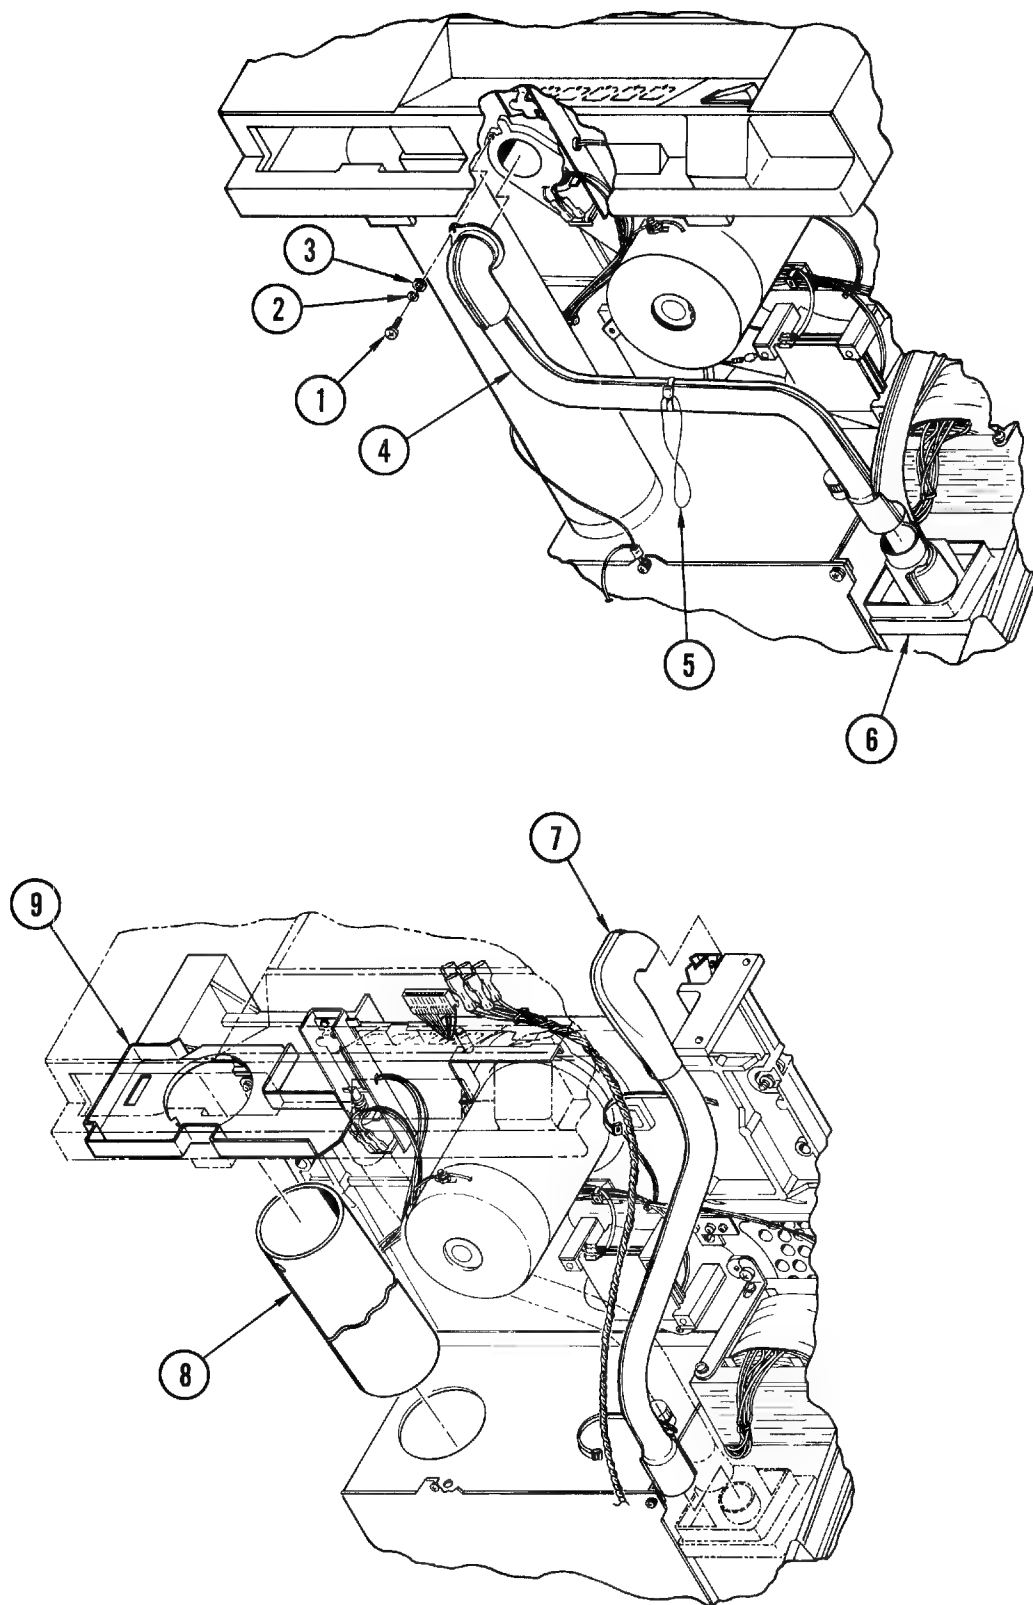

Figure 4-27. Top Plate Air Duct,
**4-41. Removal and Replacment (Figure 4-27).** Place the transport in service access position (paragraph 4-3). To replace the top-plate air duct, proceed as follows:
- a. Remove head connectors J6/J7 from main PWB and cable retractor (5). At top-plate end of top-plate air duct (4), remove screw (1), lockwasher (2), and flatwasher (3).
- b. Pull other end from blower adapter (6), and remove air duct.
- c. Remove cable retractor (5) from old duct and secure with Ty-rap on replacement duct.
- d. Install replacement duct by slipping flared end over blower adapter (6) and reinstalling screw, lockwasher and flat washer.
**4-42. Front Panel Air Duct (Figure 4-27).** Replace the front panel air duct as follows:
- c. Pull front panel just far enough away from transport to remove gooseneck end of front-panel air duct (7), noting position from which removed with reference to air deflector on front, right-hand edge of top plate.
- d. Pull other end of duct off blower adapter (6).
- e. To install replacement front-panel air duct (7), place flared end of duct on blower adapter.
- f. Position gooseneck end of duct so that it opens into air deflector and holding end of duct in place, replace front-panel assembly, squeezing positioning block of front-panel over gooseneck, ensuring that air intake tube (8) is in place in front-panel adapter (9) and power supply.
**4-43. Air Intake Tube. (Figure 4-27).** Replace the air intake tube as follows:
- c. Remove air intake tube (8) from power supply case by depressing tube slightly at hole (bottom of tube) to disengage tooth and slide forward into front panel adapter (9).